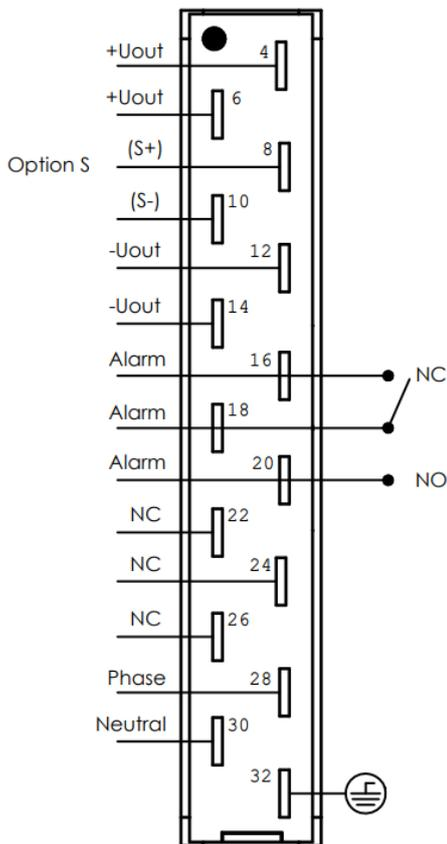

Figure 2 Standard H15
- Connector pinning, see figure 2, page 3.